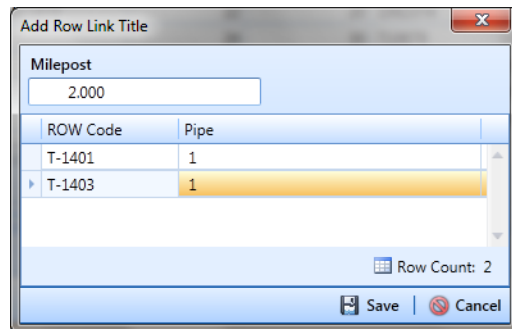

Figure 7-144. Add Row Link
- 7 Click  **Add** in the *ROW Links* mini-grid to open the *Add Row Link* dialog box (Figure 7-144).